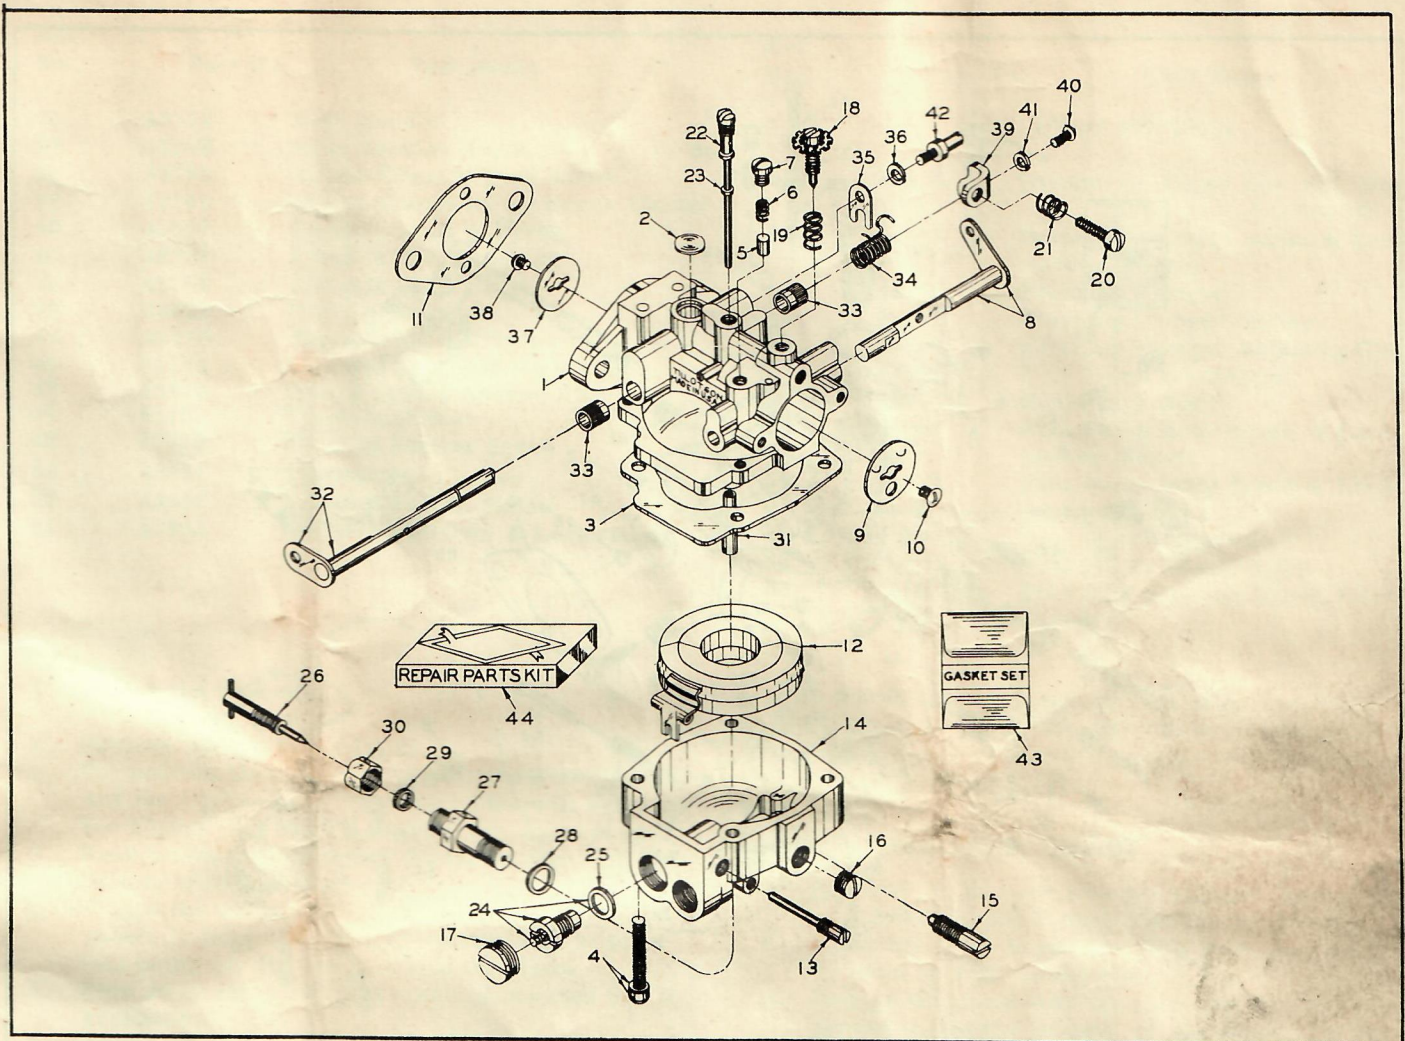

FIGURE 4. FLOAT TYPE CARBURETOR - EXPLODED VIEW
- a. Keep the high speed adjustment screw (Fig. 4, 26) in proper position at all times. If the engine is not running smoothly under load or is overheating the high speed adjustment screw is probably out of its correct setting. To correct the position of the high speed adjustment screw No. 4492H, turn the screw in (clockwise) until it is in the "off" position - as far as it will go turned by hand. Then turn it back, (counterclockwise) one and 1/8 turns. Variations in altitude and humidity produce slight changes in correct setting of this control, consequently the operator must use his own judgment in turning the screw slowly until the engine is running smoothly.
- b. The idle adjustment screw (Fig. 4, 18) is also important in maintaining full efficiency of the engine. Incorrect setting is indicated by rough running or dying of the engine when idling. Correct the adjustment by turning the idle adjustment screw in (clockwise) to the "off" position, then turning it out (counterclockwise) 3/4 of a turn. Further fine adjustment depends, as with the high speed adjustment screw, on variations of altitude and humidity. Here again the operator must depend on his own judgment in moving the screws slowly in or out until the engine is idling smoothly.
- c. The idle speed adjustment screw (Fig. 4, 20) has no effect on the fuel-air ratio. It only